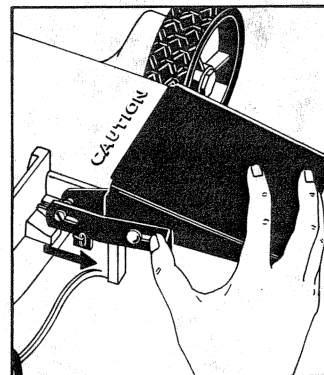
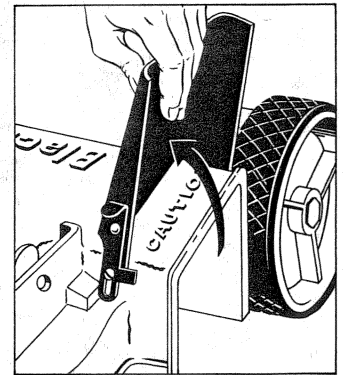

FIGURE 19A
FIGURE 19B
The Guard has a latch which locks it in the DOWN position. To raise the Guard for attaching the Grass Catcher: (1) Turn Mower "OFF". (2) Pull the latch outward (Figure 19A). (3) Lift the Guard (Figure 19B).